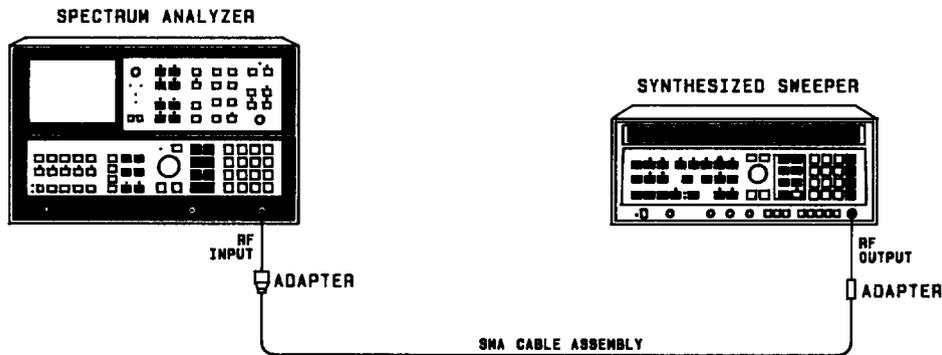

FIGURE 4. WIDE SPAN TEST SETUP
9. Disconnect the frequency synthesizer from the analyzer input. Connect equipment as shown in Figure 4.